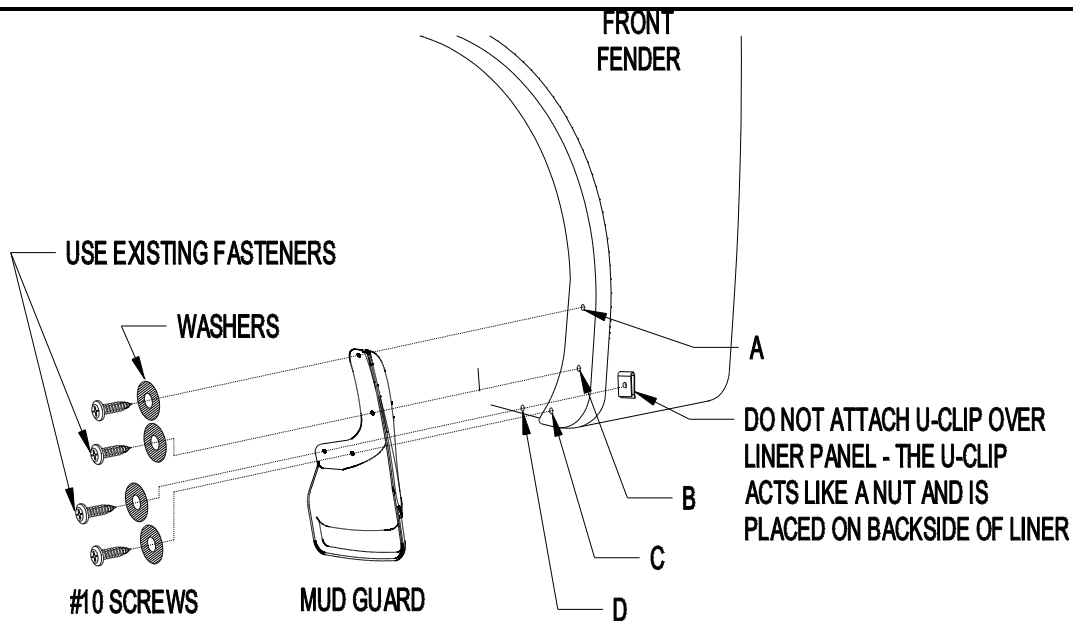

Figure 1
2. Remove existing fasteners from locations B and C (Figure 1).
4. Using the mud guard as a template mark, center punch and drill 1/8" hole at location A and D (Figure 1).